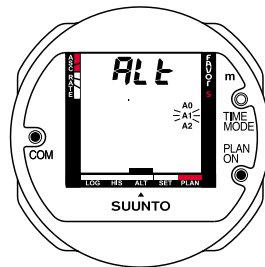

Fig. 4.8 PERSONAL/ ALTITUDE ADJUSTMENT SETTING, STEP 2
2. Connect the PLAN/ON and COM contacts until all three personal/ altitude adjustment modes appear. Release your fingers immediately at this point. The current mode is now blinking (Fig. 4.8). Wait at least two seconds but not more than four seconds before the next step.